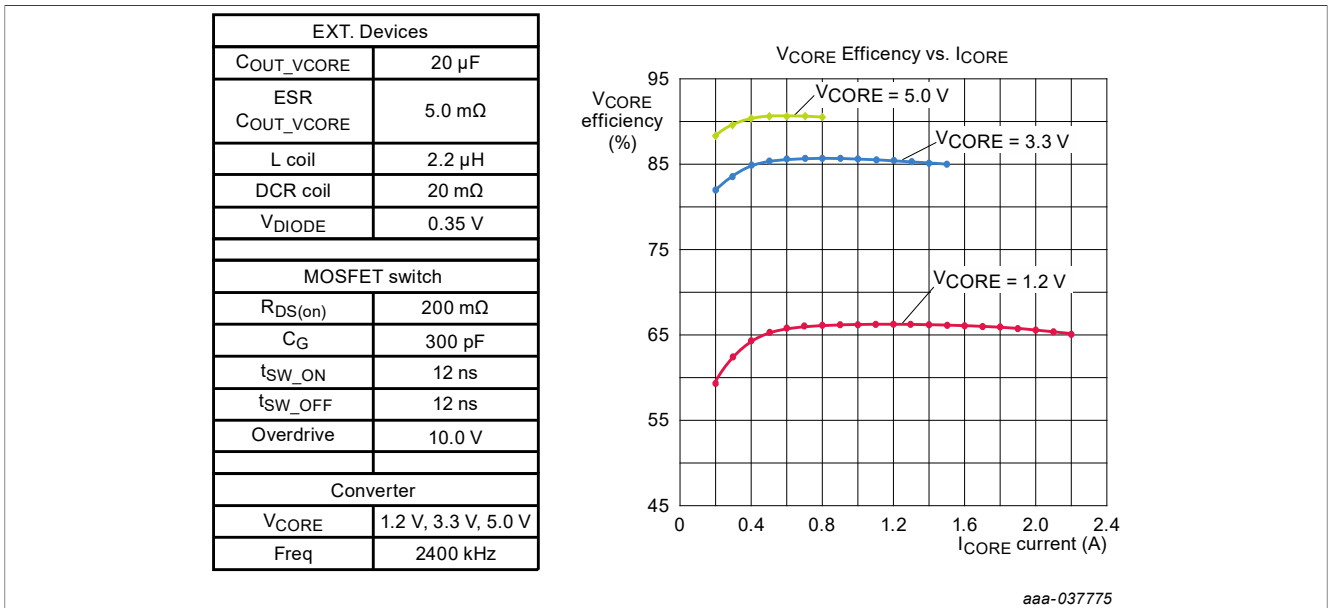

Figure 43. VCORE efficiency
VCORE efficiency versus current load is given for information based on typical external component criteria described in Figure 43, close to the graph and at three typical VCORE voltages (5.0 V, 3.3 V, and 1.2 V), covering most of the MCU supply ranges. The efficiency is valid above a 200 mA load on VCORE to be in continuous mode in the 2.2 μH inductor. The efficiency is calculated and has to be verified by measurement at the application level. One major contributor degrading the efficiency at VCORE = 1.2 V is the external diode during the recirculation phase. The lower the diode forward voltage (VF) is, the better the efficiency.